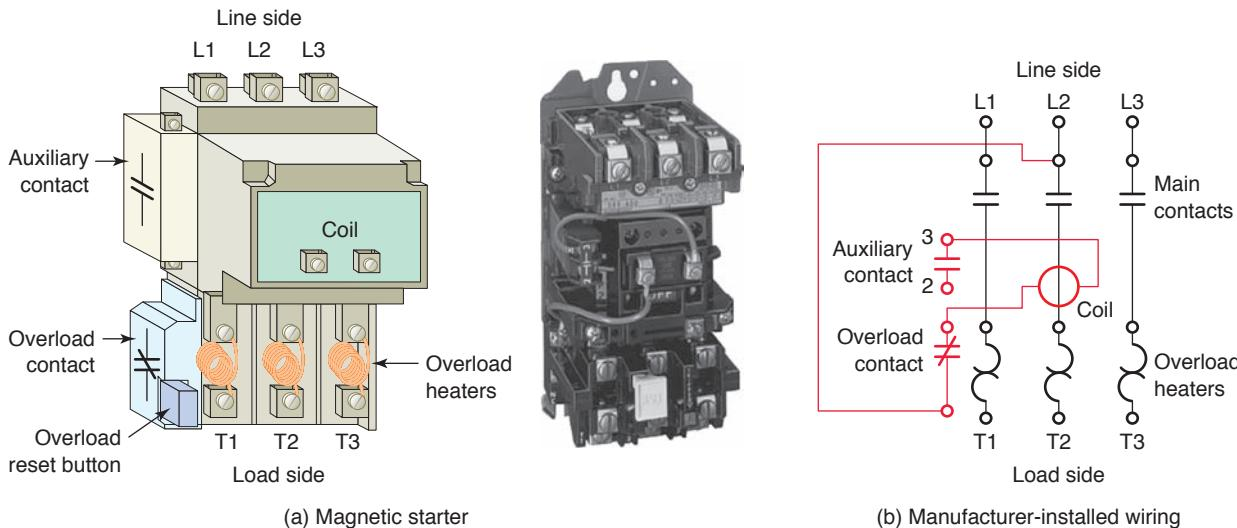

Figure 6-31 Magnetic motor starter.
(Figure 6-31) is a contactor with an overload protective device, known as an overload relay (OL), physically and electrically attached. The overload protective device protects the motor from overheating and burning up. Normally magnetic starters come equipped with some manufacturer-installed control wiring, which may include: